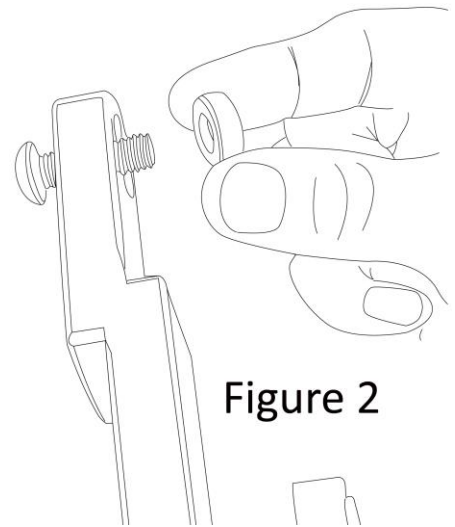

Figure 2
7. Attach the billet aluminum hinges to the hood using the supplied 5/16-24 x 1" button head bolts, 5/16" AN washers, and aluminum spacers inserted between the hinge and the hood (see figure 2).